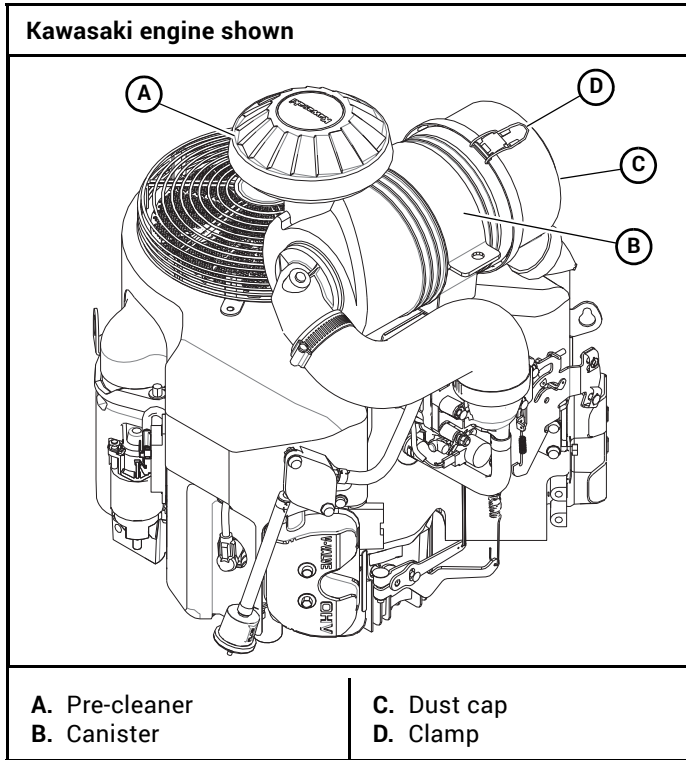
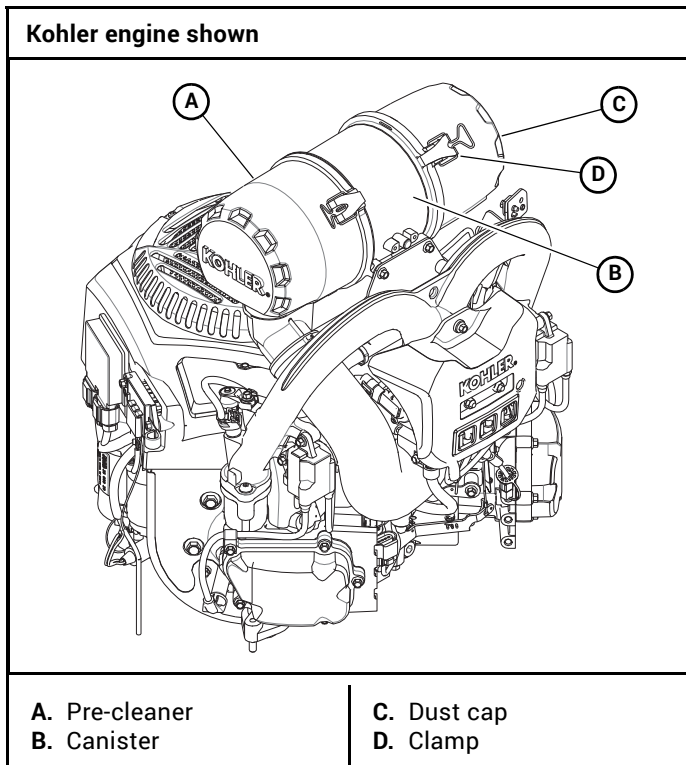
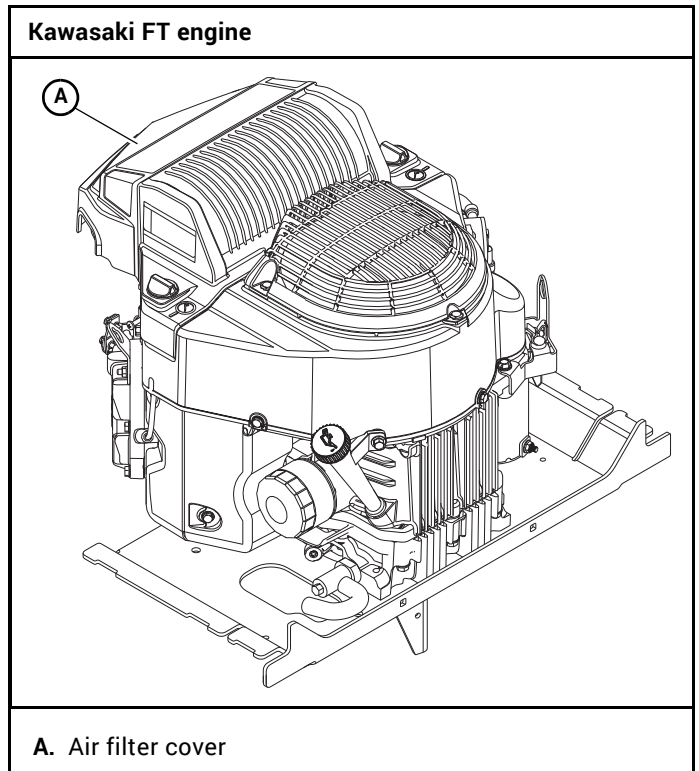

Figure 4-15
Figure 4-16
Figure 4-17
A specially designed dry filter is standard equipment on these mowers and supplies clean combustion air to the engine. Figure 4-15, Figure 4-16, & Figure 4-17, & Figure 4-18
3. Reinstall the dust cap. Make sure it seals all the way around the air cleaner canister, then tighten the clamps. Figure 4-15, Figure 4-16 & Figure 4-18